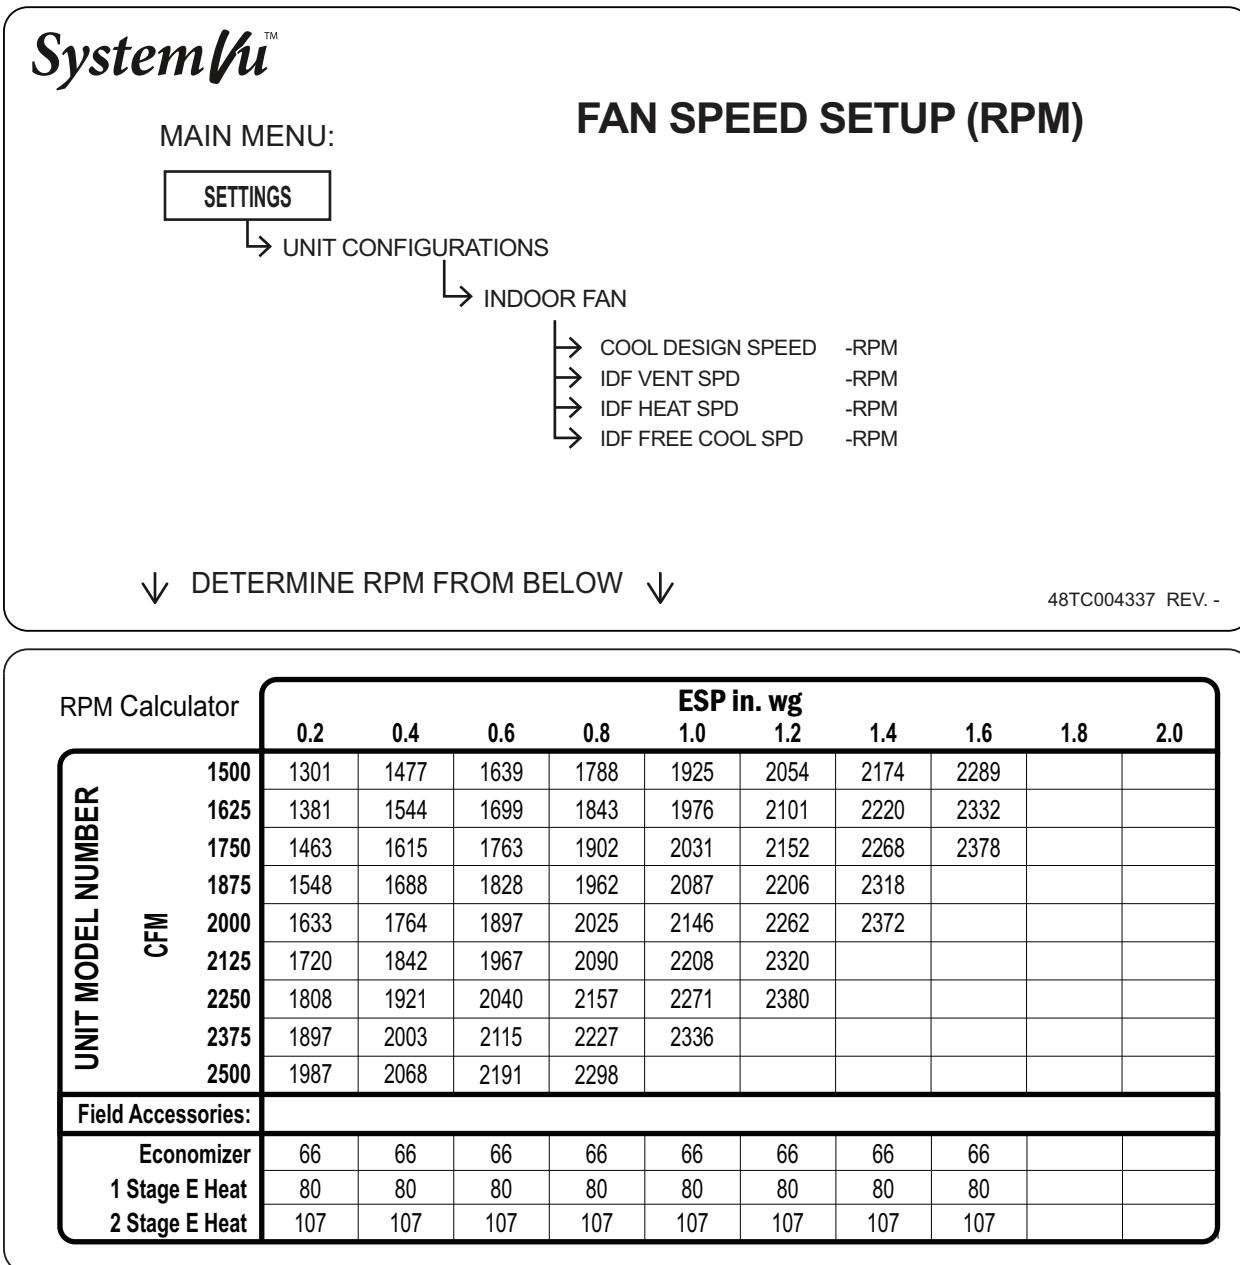

Fig. 4 — Example of Fan Speed Set Up Labels
Fan Performance tables and physical data. The specific unit's fan performance table is printed and adhered to the control box high voltage cover. See Fig. 4 for an example fan performance table.
2. Using the chart on the Fan Speed Set Up labels (see Fig. 4), calculate the RPM from the CFM and ESP for the base unit plus any field accessories (as listed on the label).
8. Refer to the job specifications to set the following, determining the values per the RPM Calculator label (Fig. 4). Use the UP and DOWN arrow keys and the BACK key to set the values. Press ENTER after setting each value to continue to the next selection.